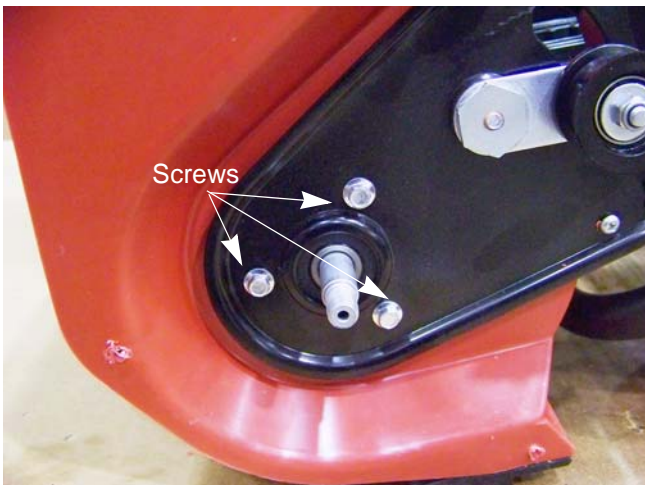

Figure 4.7
4. Remove both bearing retainers by removing the bearing retainer screws using a 7mm wrench. See Figure 4.7.